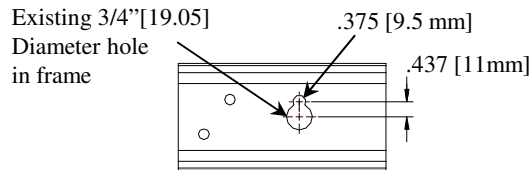

Figure 2
①	Qty. (2)	Carriage bolt 7/16-14 X 1.5 Gr 5	⑥	Qty. (1)	Spacer 1/4 X 1 X 1.94
②	Qty. (2)	Spacer 1/4 X 7/8 X 3	⑦	Qty. (2)	Flat washer 3/8"
③	Qty. (2)	Conical washer 7/16"	⑧	Qty. (2)	Lock washer 3/8"
④	Qty. (2)	Hex nut 7/16-14	⑨	Qty. (2)	Hex nut 3/8-16
⑤	Qty. (1)	U-Bolt 3/8-16 X 1.875 GR5	⑩	Qty. (2)	Pull wires 7/16"
- Lower exhaust by removing nuts on the exhaust hanger brackets (2) nuts from each bracket. Both sides. For additional clearance if needed for the drill or rotary tool. Remove rubber isolator located at the forward exhaust connection. Spraying a lubricant or soapy water on the metal hanger rod and the rubber isolator helps removal.
- Remove tape covering the access hole in frame rail. Both sides. Mark approx. 7/16" [11mm] off center of hole and open up access hole to allow for the spacer (item 2) and carriage bolt. See Figure 2.